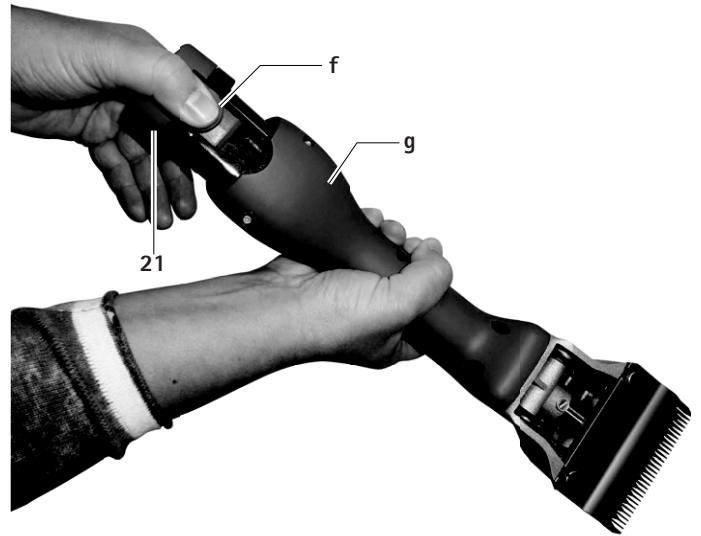

Fig. 1
- ▶ Hold the battery-operated clipping machine g with the cutter head downwards so that the lithium ion battery 21 does not fall down when loosened, see Fig. 1.